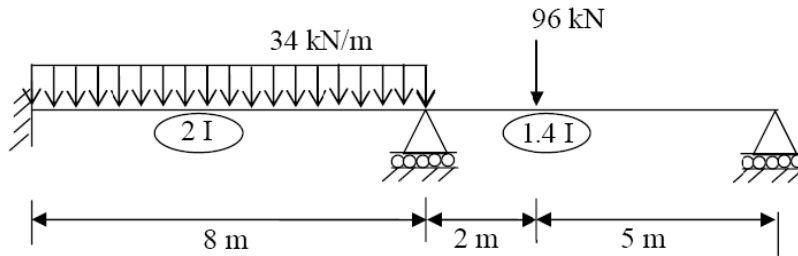

Figure 4
4. Analyze the continuous beam shown in Figure 4 using slope-deflection method, and draw shear force and bending moment diagrams. Locate and find the distances of the points of contra-flexure from supports. Draw elastic curve. [16]